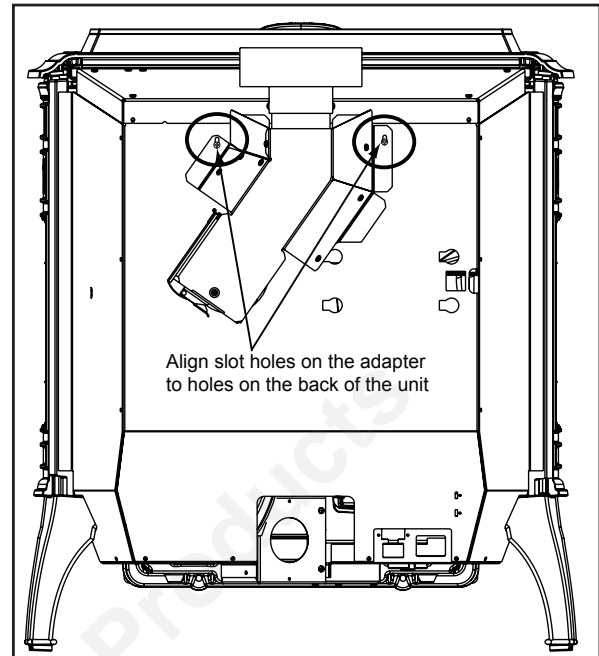

Figure 20.2
3. Align slot on left of adapter with hole in the back of the unit and secure with screw. You may drill out the hole using #26 drill bit provided but only if needed. **Figure 20.2.**
5. Drill 2 holes with #26 drill bit through the rear exhaust outlet using the 2 holes already in the short horizontal pipe in the top vent adapter as a guide. Install the screws. **Figure 20.2.**
7. To clean top vent adapter, open clean-out cover and remove any debris build-up. **Figure 20.2.**